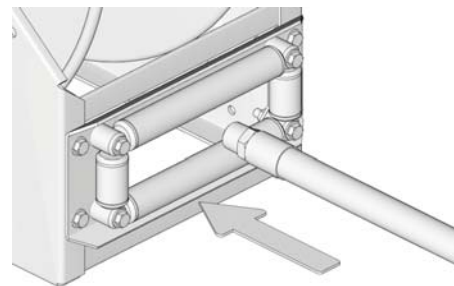

FIG. 50
- d. If hose was removed from outlet (30) during disassembly, or if you are installing a new hose; feed one end of hose through rollers (FIG. 50).